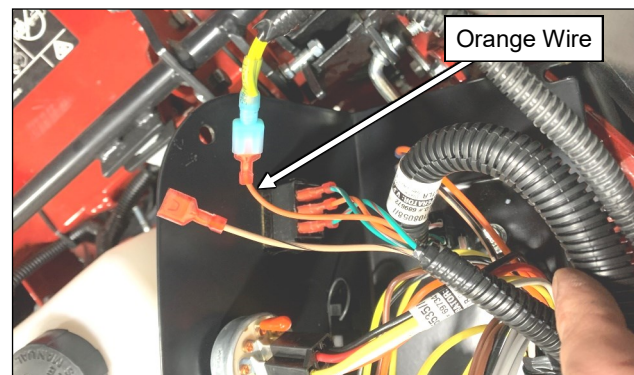

Fig. 6.3 (Keyed power connection)
- 6.3 Remove the console from the right side fuel tank. Route the yellow wire from the A/C harness under the fuel tank and through the opening for the console. Connect the yellow wire to the free orange wire on the underside of the console (keyed power). See Fig 6.3. Re-attach the console to the fuel tank.